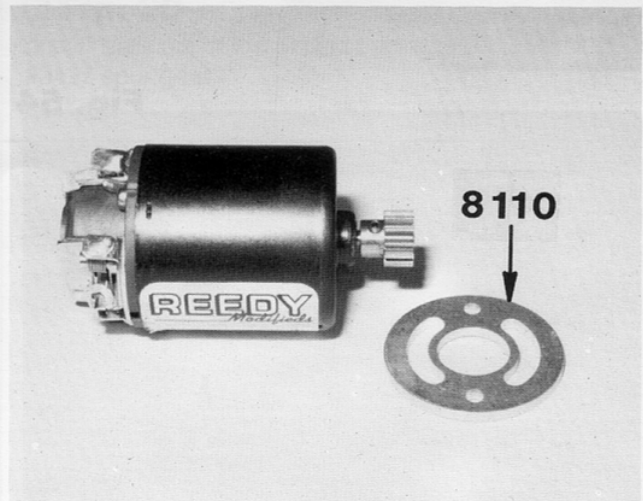

Fig. 52
□ **Figs. 52 & 53**—Before you install your motor, install the capacitors onto the motor that the motor manufacturer recommends to prevent radio interference. Now set screw the motor pinion gear onto the motor shaft as shown so that the end of the pinion gear is flush with the end of the motor shaft. Now slip the #8110 motor spacer onto the motor.